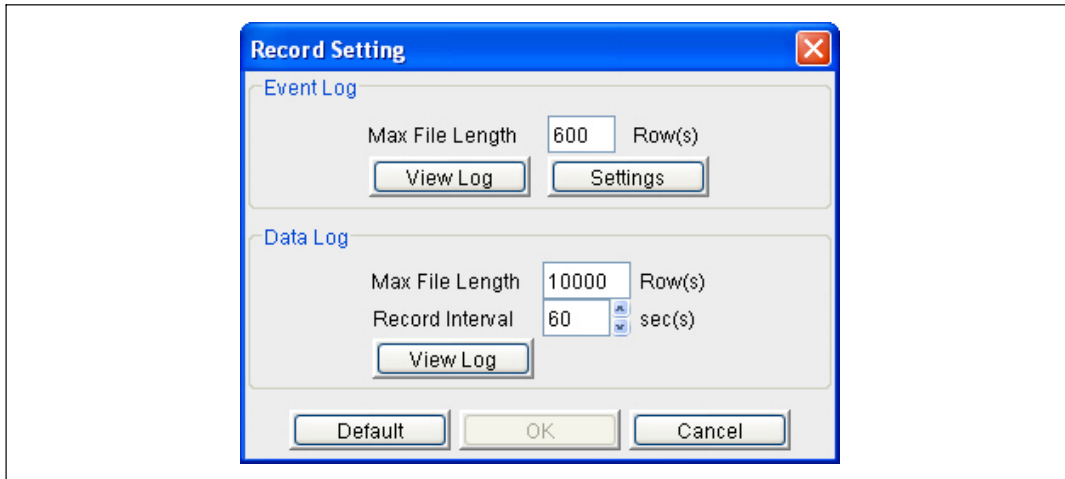

Figure 45. Record Setting Window
- Click the **View Log** button in the Event Log area of the **Record Setting** window (see Figure 45 on page 43).
- Click the **View Log** button in the Data Log area of the **Record Setting** window (see Figure 45).
Use the Record Setting window to set the parameters for the log files. Select **Record Setting** from the **Logs** menu. The Record Setting window opens (see Figure 45).